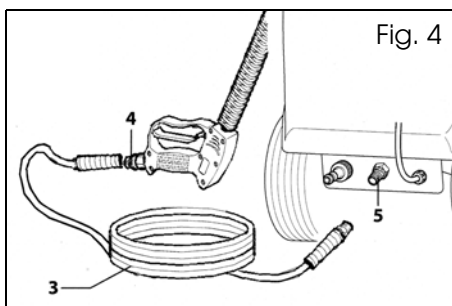

Fig. 4
1. Connect one end of the high pressure hose (3) to the gun (4). See Fig. 4.
2. Connect the other end of the high pressure hose to the outlet (5), tightening firmly.